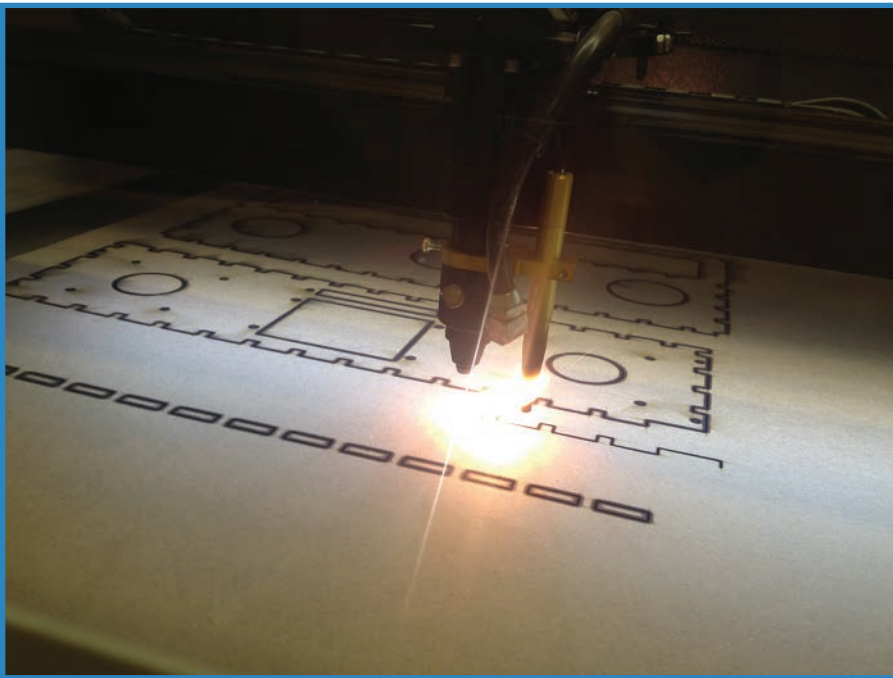

FIGURE 9.7 The best way to cut wood is with light.
- **Laser cutter**—This tool (seen in Figure 9.7) is used to cut through plastic and wood, following a design you have created in a vector art program such as Inkscape. This is great for drone makers because it allows you to learn from others' explorations. Want a laser-cut drone chassis? You can find a bunch of designs online, already created and available for download.